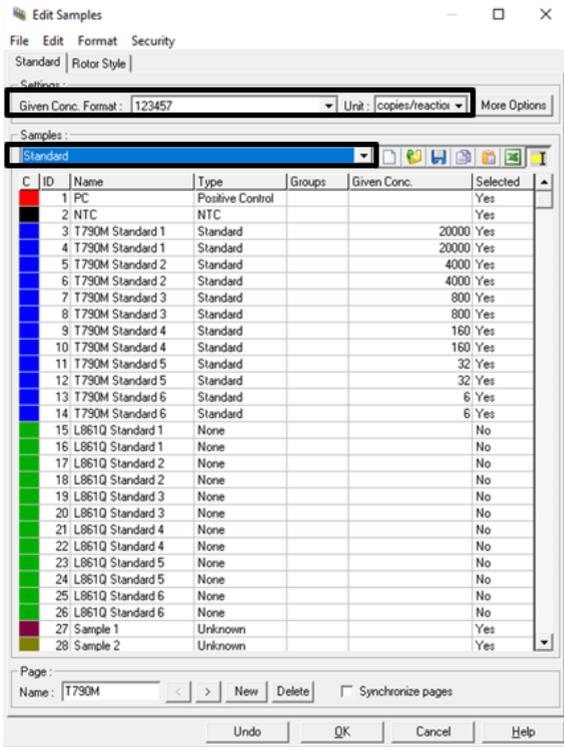

Figure 29. Editing the samples and units in the Rotor-Gene Q software.
- In the "Given Conc." column, enter the DNA concentration of the T790M standards dilutions and define the unit (copies/reaction) using the drop-down list. Enter the sample name (e.g., Standard 1 20000 copies/reaction) (Figure 29).
- Click **New** twice to create two new pages, then check the **Synchronize pages** box (Figure 29).
16. On Page 2/L861Q of the Edit Samples window, clear the **Synchronize pages** box. Select **None** as sample type for T790M DNA standards (Figure 29). In the “Given Conc.” column, enter the L861Q DNA standard concentrations and define the unit (copies/reaction) from the drop-down list (Figure 29).